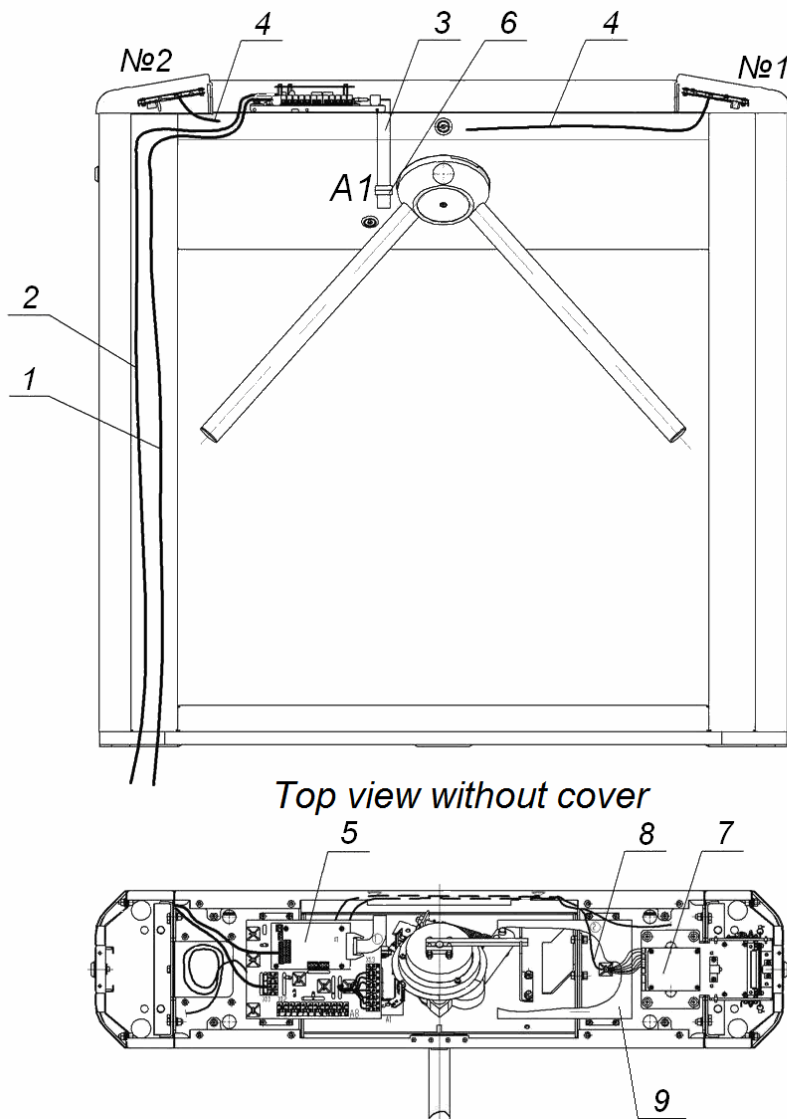
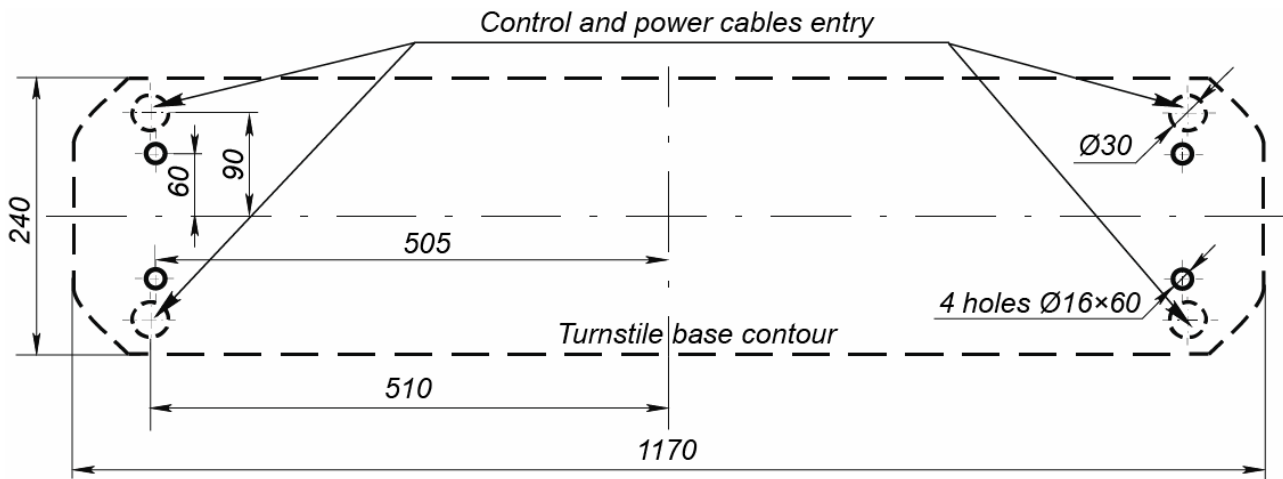
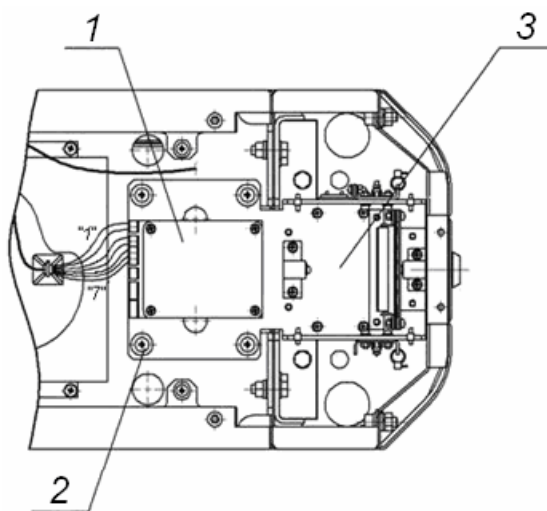

Fig. 12. Cable routing inside the TBC-01.1 turnstile housing:
Fig. 13. TBC-01.1 turnstile housing installation layout
Fig. 14. Card capture reader mechanism
- to mark the mounting holes according to Fig.13;
- 2 Make holes for anchor bolt sleeves for the turnstile housing installation (Fig. 13). Prepare a cable raceway for cables when cables are laid concealed under floor. Install and fix the turnstile housing only after all cables inside the turnstile housing and in electric raceways are laid. Cable routing inside the turnstile housing is shown in Fig. 12.
To reorientate the card capture reader mechanism (3, Fig. 14) i.e. to install it to the side of the Reader №1 (Ref. Fig. 12), rather than to the side of the Reader №2 proceed as follows:
- 1 Take off the top cover (3) in accordance with Clause 6.
- 2 Remove the card container (12), by opening the lock (13).
- 3 Remove the turnstile housing side cover (14) from the opposite side by opening the lock (15).
- 4 Take off the front covers (9, 10); each front cover is fixed with two M4×16 bolts and two Ø4.2×19 screws beneath, from the card container side (12) or the turnstile housing side cover (14) side; do not disconnect the card readers cables that are located inside the front covers.
- 6 Remove the blank cover (11) from the front cover (9) and install it to the front cover (10); the blank cover is fixed with two Ø2.9×9.5 screws.
- 7 Disconnect the card capture reader cable (8, Fig. 12) from a side of the card capture reader control board.
- 8 Dismantle the card capture reader mechanism (3, Fig. 14, – is fixed with 4 bolts M5×20, 2, Fig. 14) and install it to the opposite side of the turnstile, fixing it in the corresponding place with the same bolts.
- 9 Reposition the card capture reader cable (8, Fig. 12) to the side of the reader №1. Use self-adhesive cable tie mounts and nylon cable ties from the standard delivery set to fix the cables.
- 10 Connect the cable of the card capture reader (8, Fig. 12) to the card capture reader control board in accordance with a layout (Fig. 11).
- 12 Install into operating position the card container (12) on the same side as the card capture reader mechanism, and the turnstile housing side cover – on the opposite side (14).
- 13 Install the top cover (3) into operation position (Ref. Section 6).
The turnstile design has the place designated for mounting of an ACS controller. The ACS controller is mounted on a bracket (9, Fig. 12). Maximum possible size of the mounted board is 160×150×35 mm.